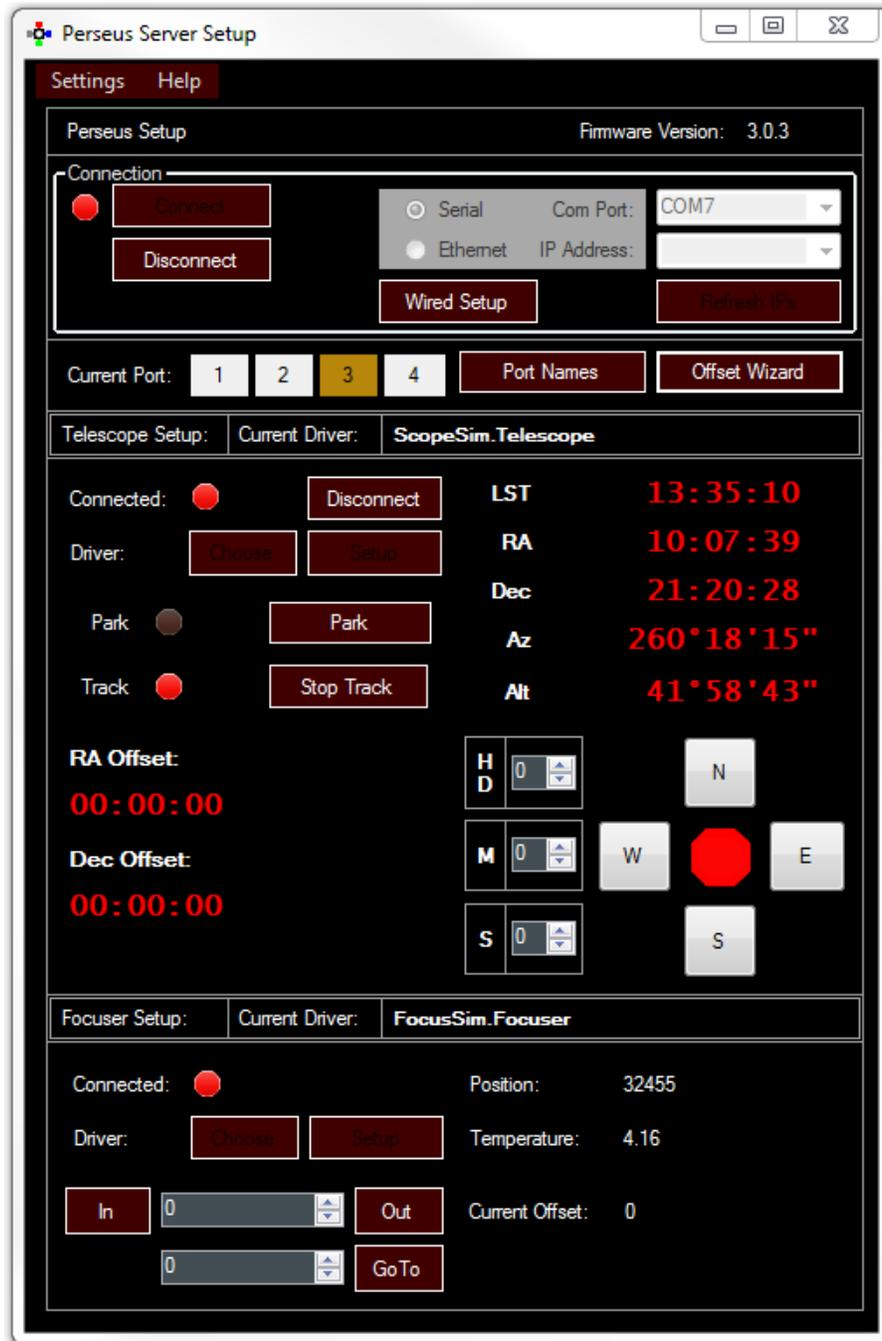

Figure 1. The Perseus Server Setup Window (as of version 3.0.3).
2. Open the server by clicking on the Setup menu and then Settings (Figure 1).
7. Once you are connected and imaging you can open the Calibration Wizard from the Perseus Server Setup (this is found under the Settings menu or the Offset Wizard button on the main screen (see Figure 1)).